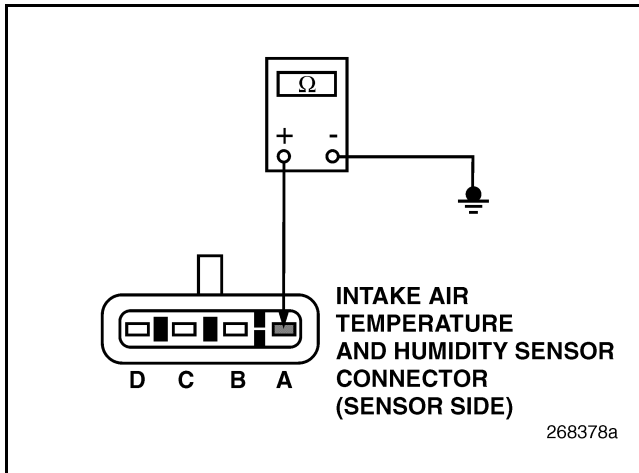

Figure 831
3. Check for continuity between Intake Air Temperature and Humidity Sensor pin A and a good ground (see Figure 831).